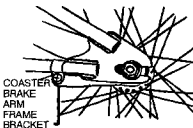

Fig. 12 Remove coaster brake bracket
(1) Disengage the coaster brake arm from its frame bracket (see Fig. 12).
(2) With a correctly sized box wrench or a six-inch adjustable wrench, loosen the two axle nuts.
(3) Push the wheel forward to slacken the chain, and remove the chain from the chainring and wheel sprocket.
(4) Pull the wheel out of the frame.
(1) Put the chain on to the wheel sprocket. Then, insert the wheel into the frame dropouts and push it all the way in to the dropouts. The axle nut washers should be on the outside, between the frame and the axle nut.
(2) Put the chain on to the chainring.
(3) Pull the wheel back in the dropouts so that it is straight in the frame *and* the chain has about 1/4 inches of up-and-down play.
(4) Secure the coaster brake arm to its frame bracket (see Fig. 12), but do not fully tighten the securing nut and bolt.
(5) Tighten the axle nuts as tightly as you can, using a six-inch adjustable wrench or a correctly sized box wrench. Spin the wheel to make sure it is straight in the frame.
(6) Fully tighten the coaster brake arm securing nut and bolt.